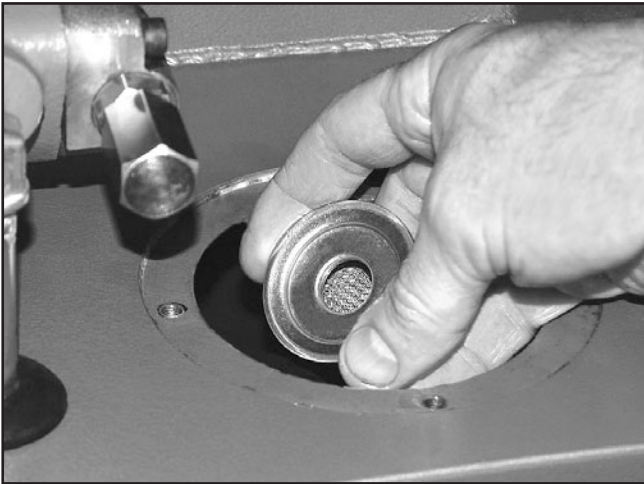

Figure 105. Suction screen removal.
4. When the tank is completely cleaned out, unthread the suction screen (**Figure 105**), from the suction pipe, and remove the suction screen assembly.
5. Using mineral spirits and a blow gun, clean all contaminants from the screen (**Figure 105**) and blow dry.